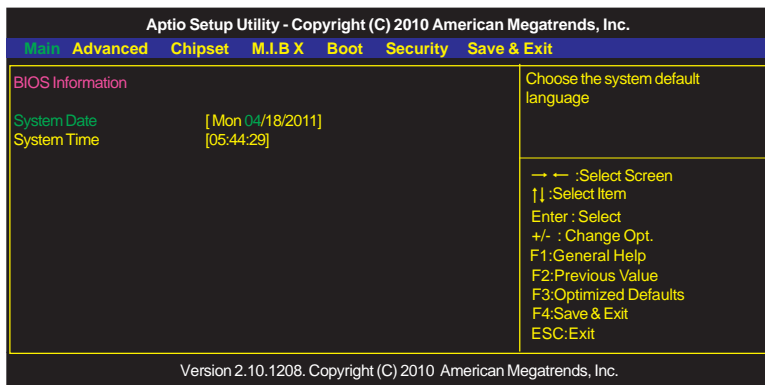

Figure 1.1 BIOS CMOS Setup Utility Main Screen
- 2 Use the arrow keys to select Advanced menu (see Figure 1.1), then select SATA Configuration and press Enter.